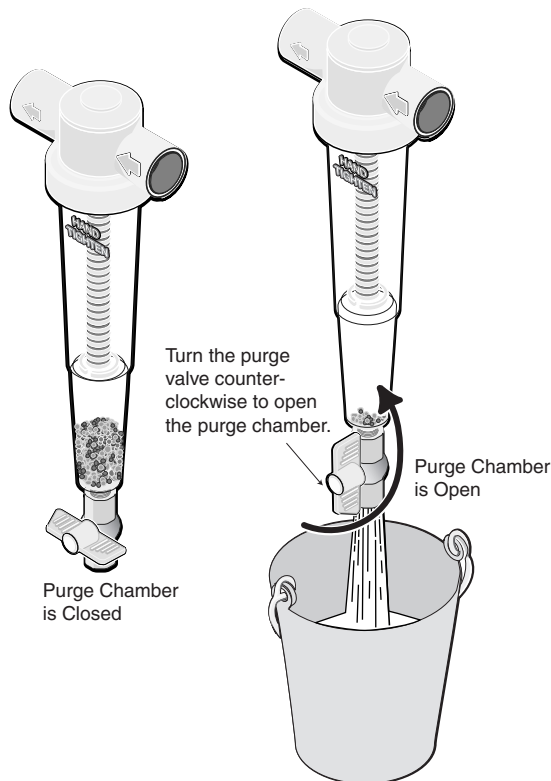

Figure 4
When sand and silt fill the purge chamber approximately 1/2 full, it is time to clean the filter. See Figure 4.
- Open the purge valve and allow the water to flush the sand (Figure 4) out of the chamber.